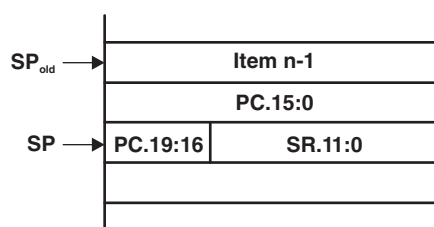

Figure 4-2. PC Storage on the Stack for Interrupts
During an interrupt, the program counter (PC) and the status register (SR) are pushed onto the stack as shown in Figure 4-2. The MSP430X architecture stores the complete 20-bit PC value efficiently by appending the PC bits 19:16 to the stored SR value automatically on the stack. When the RETI instruction is executed, the full 20-bit PC is restored making return from interrupt to any address in the memory range possible.